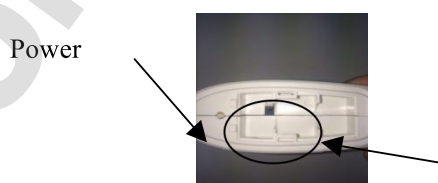

Fig.7
- Connect the 2 pin plug of the new Lithium-ion battery to the exposed 2 pin connector on the PCB. The side of the plug with the exposed metal tabs, should face away from the PCB, Fig 7. If the battery is connected with the plug in the wrong orientation, you will not see a display on the LCD screen.